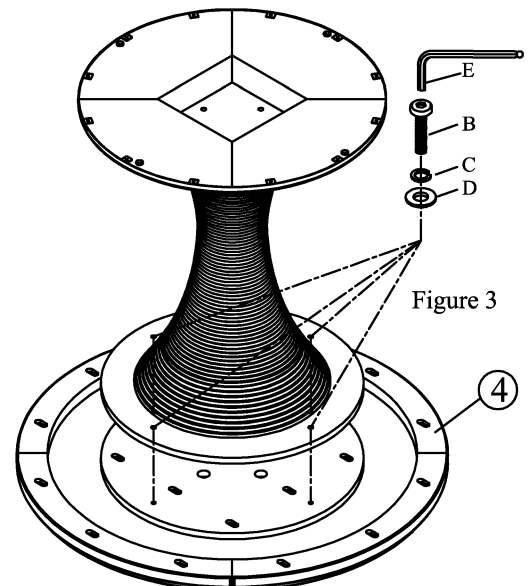

Figure 3
- STEP 3. Turn the table top (4) upside down on clean soft surface attach the post assembly to the top (1) as shown in the picture using bolt (B), lock washer (C), flat washer (D) and tighten them by allen key (E). See Figure 3